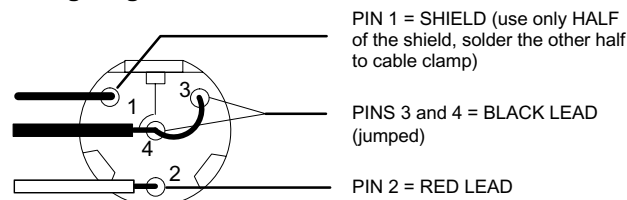

FIGURE 4
4. After threading the cable through the bottom exit hole in the mounting surface, re-attach the 4-pin mini connector (see Figure 4).